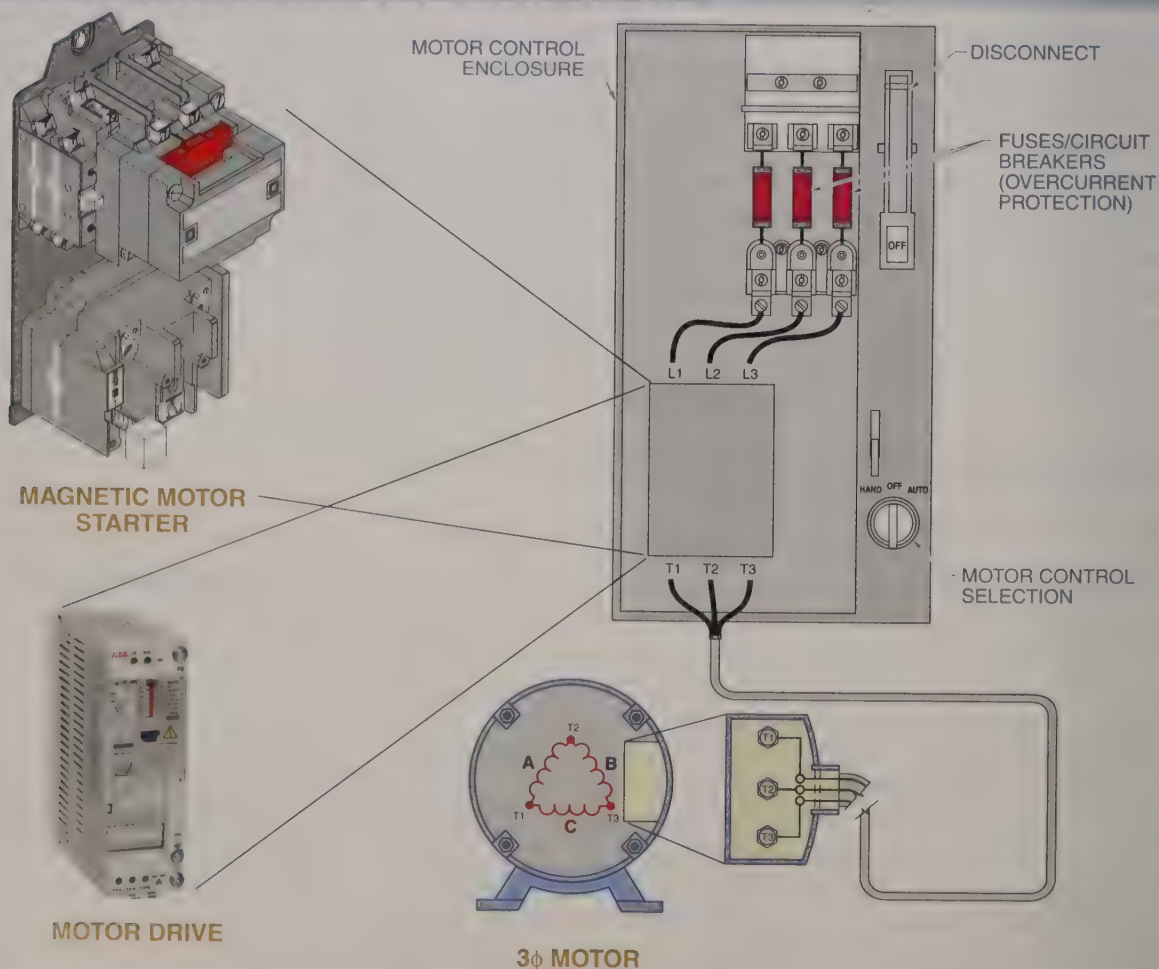

Figure 26-1. A magnetic motor starter or a motor drive can be used to control a motor.
The cost of using a magnetic motor starter or a motor drive is about the same for any horsepower (HP) rating. The cost of a motor drive for any given horsepower increases with drives that offer advanced features, such as the ability to connect to and communicate with a computer (for programming or for printing parameter settings and faults), provide multiple programmable output contacts, include analog inputs (0 V to 10 V, 4 mA to 20 mA, variable resistance), and include advanced parameter settings. Some drives may include built-in PLC/PLR functions such as internal timers and counters. An AC motor can be controlled with either a magnetic motor starter or a motor drive. The required level of control depends on the application where the motor is used. See Figure 26-1.